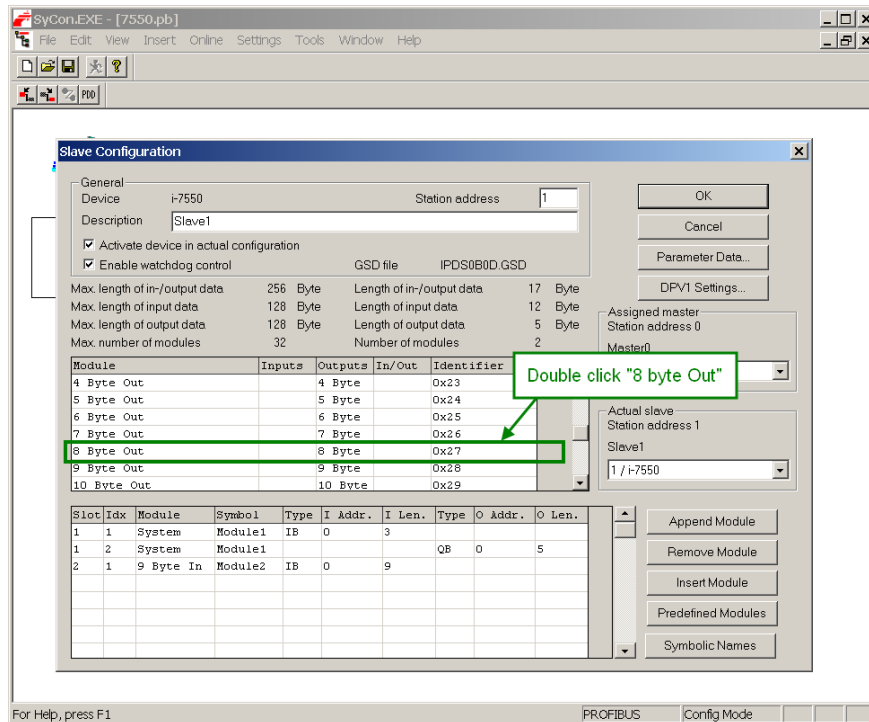

Figure 34: Select an output length of 8 bytes
- Select the output length: Here the length is set to 8 bytes (*Figure 34*)